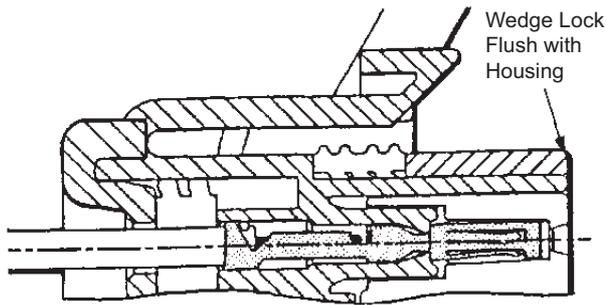

Figure 4
- Slide the wedge lock into the housing until it is flush with the housing (see Figure 4).
It is possible during adverse shipping conditions that some wedge locks may get bumped into the closed position (see Figure 4). If so, refer to Section 5, DISASSEMBLY PROCEDURES, Steps 1 and 2.